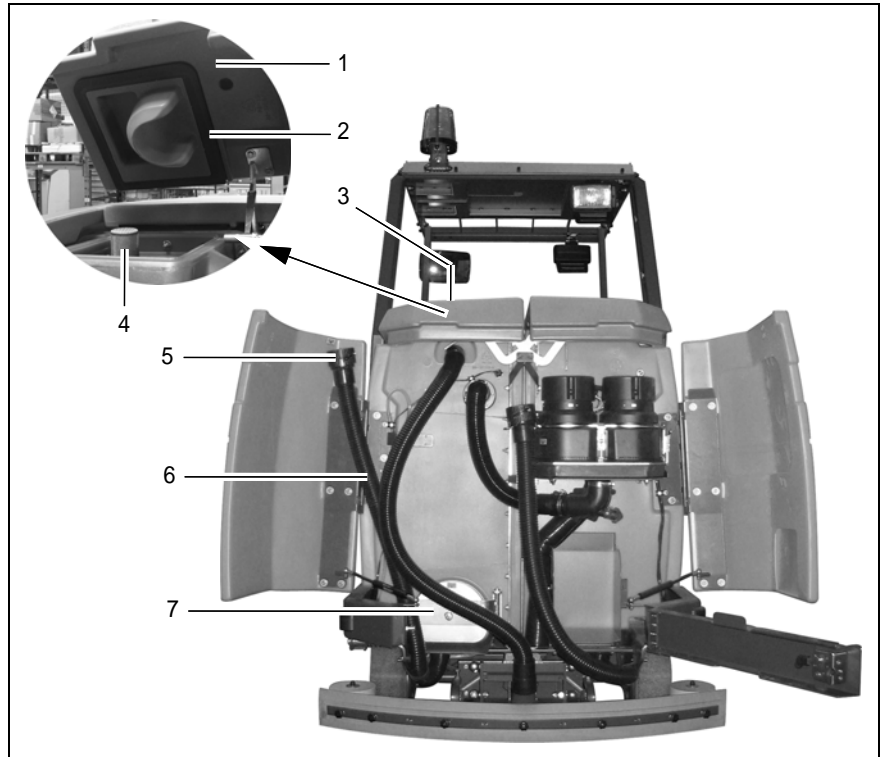

Fig. 26
The recovery tank (Fig. 26/3) must be emptied and flushed clean after finishing work.
3. Detach the waste water draining hose (Fig. 26/6) and lower it slowly.
4. Unscrew the cap (Fig. 26/5) to open it. The quantity drained can be regulated by turning the cap and pivoting the cap open fully, if necessary.
Clean the recovery tank (Fig. 26/3) every day or as necessary. The cleaning flap (Fig. 26/7) is available for this.
6. Open the recovery tank cap (Fig. 26/1).
- Unhook the waste water draining hose (Fig. 26/6), lower it slowly and open the cap (Fig. 26/5).